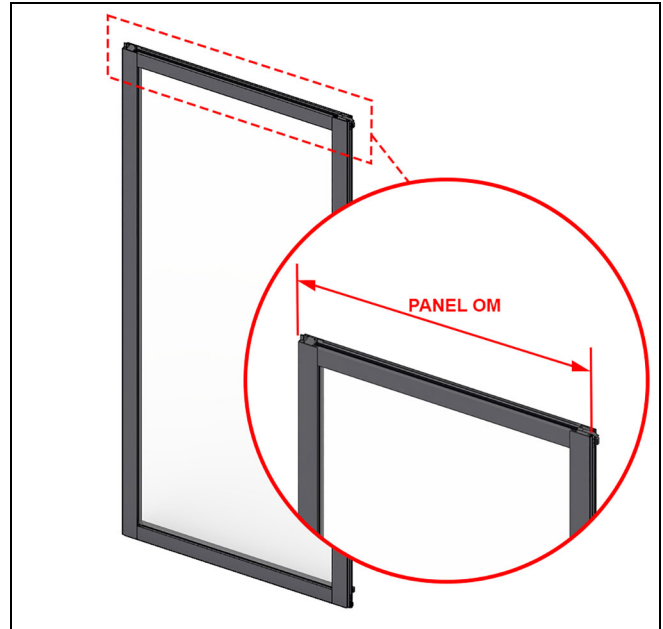
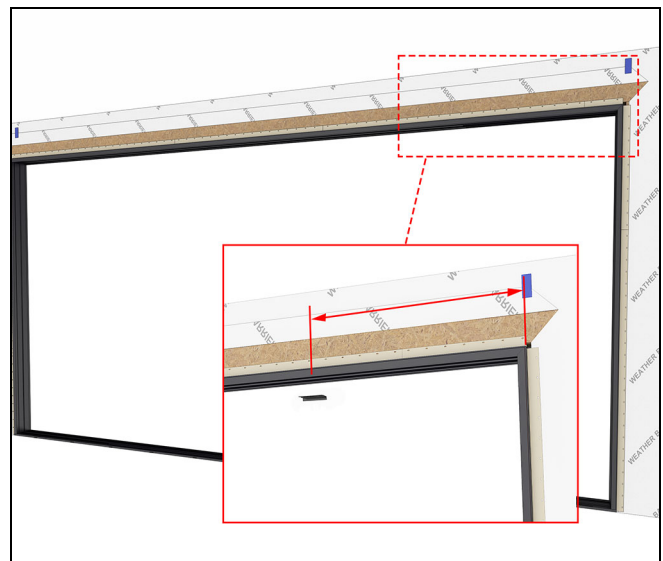

Figure 127
Figure 128
1. Measure the (H) stationary panel OM. Transfer that measurement to the interior track of the head jamb and center the top stationary bracket at that distance. See Figure 127 and Figure 128.